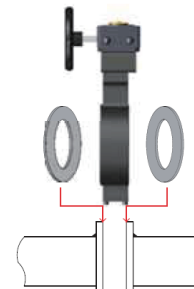

Figure 1
- Carefully place the gasket between the flanges and place them in the center of the pipe to ensure a good seal. (see Fig.1)